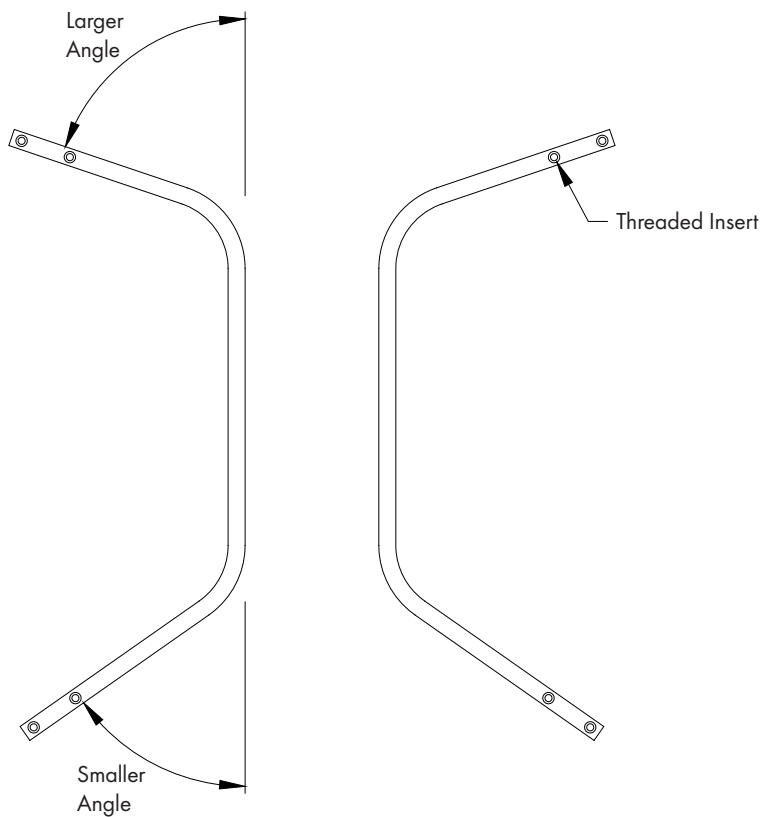

Figure 3
- A) The angle of bend in strut will determine the top/bottom. The larger angle is the top of the strut and the smaller is the bottom. See Figure 3.
- B) With struts in front of you. The Left strut will have the threaded inserts facing you on the left and the Right strut will have threaded inserts on your right. This is the exhaust side. See Figure 3.